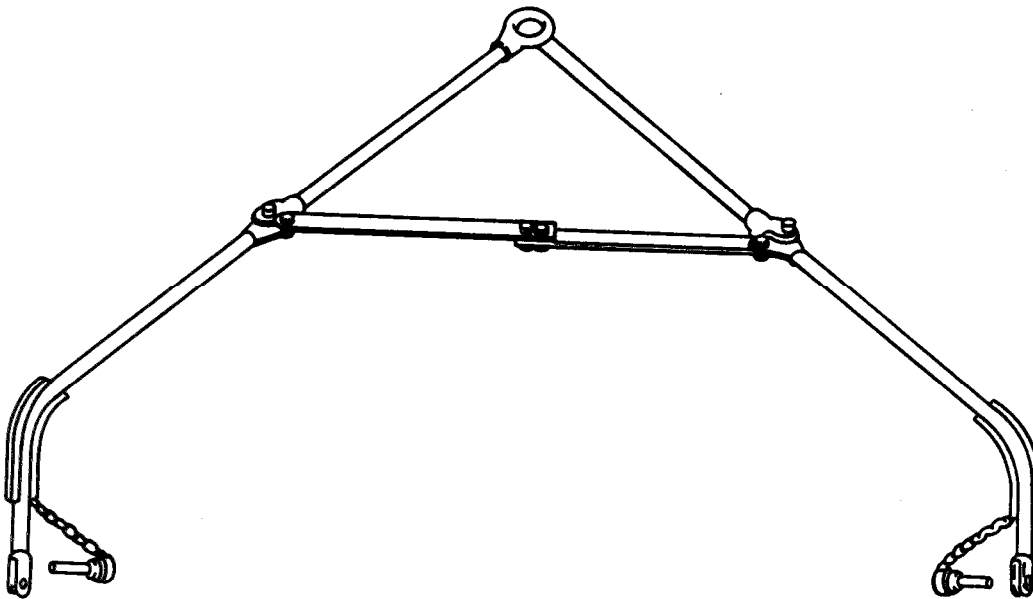

Figure 4-2 Towing and Lifting Yoke
- (1) Remove towing and lifting yoke (figure 4-2) from crate.